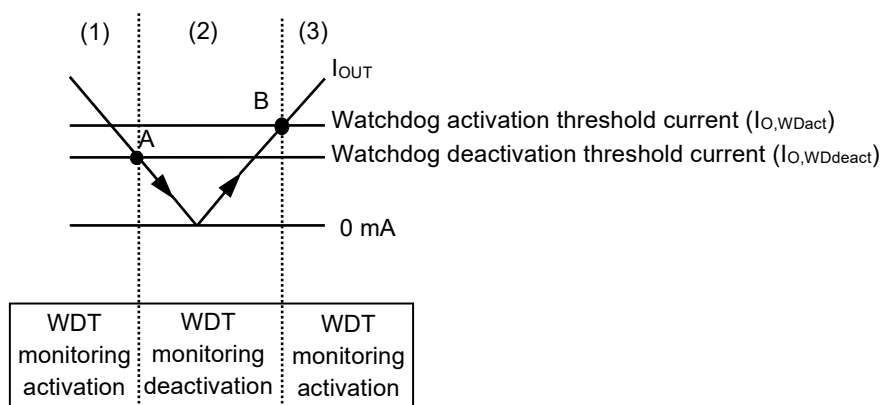

Figure 26 Autonomous Watchdog Operation Function
- (1) When I_{OUT} of the regulator is the watchdog activation threshold current ($I_{O,Wdact}$) or more, the input voltage (V_{Wdact}) of comparator (C1) is higher than the reference voltage (V_{ref}), and the output of C1 is "H". At this time, the watchdog timer activated.
- (2) When I_{OUT} decreases to the watchdog deactivation threshold current ($I_{O,Wddeact}$) (point A in **Figure 26**) or less, V_{Wdact} decreases to V_{ref} or less and the output of C1 is "L". At this time, the watchdog timer deactivates the monitoring. Even if I_{OUT} increases, the watchdog timer continues the monitoring deactivation when I_{OUT} is within less than $I_{O,Wdact}$
- (3) If I_{OUT} further increases to $I_{O,Wdact}$ (point B in **Figure 26**) or more, V_{Wdact} increases to V_{ref} or higher and the output of C1 is "H". And then, the watchdog timer initiates the monitoring activation.